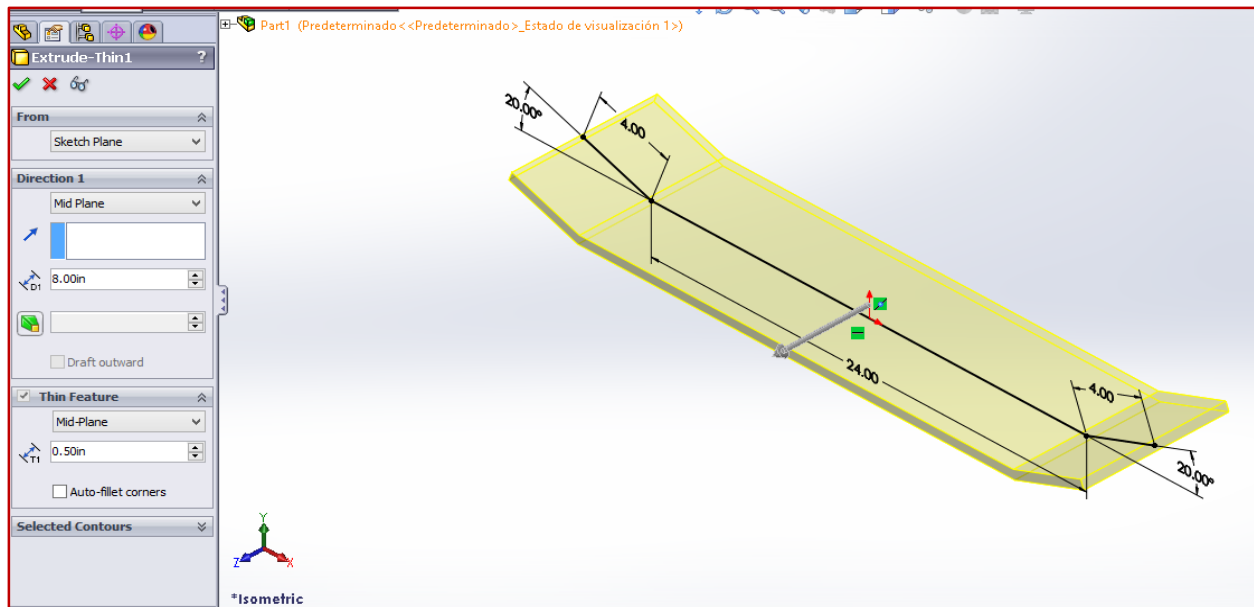

Figure 3.6 – Extrusion of the Sketch
- ✓ Click the **Extruded Boss/Base** command to get the dialog box in Figure 3.6. Select the **Mid Plane** option for **Direction 1** and the **Thin Feature**. Type the dimension 8 inches for D1 and 1/2 inches down for T1. The Up and Down directions can be selected by choosing **One-Direction** in the first dialog box and then pressing the button with the arrows. When you toggle the button with the arrows you alternate between extruding up and extruding down. Verify that your extrusion is down.
- ✓ Click the check mark to accept. The preview should look like Figure 3.6.